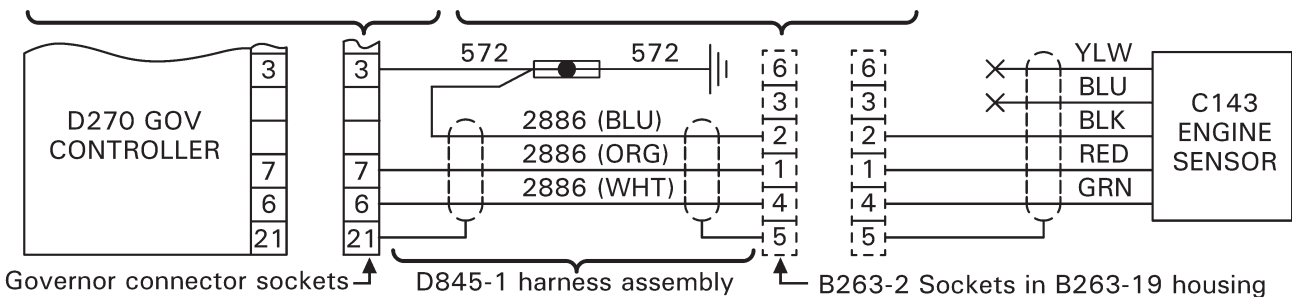

FIGURE 15 Proper installation of terminator
31. Refer to Figure 15. With attached black-striped wire pointing toward inner wires, slide B267-3 terminator into position so inner solder sleeve is centered on exposed shielding. Using heat gun, apply 700°F heat to terminator until both solder sleeve & indicator ring are completely melted (or until solder sleeve melts & red color disappears, as applicable). Allow to cool. Trim black-striped wire to same length as inner wires.